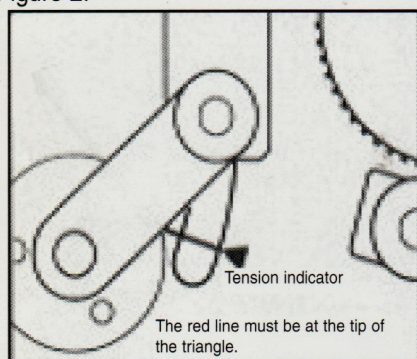

Figure 2
- Ensure that the film tension is set properly in the SDDS Reader Unit (DFP-R2000), refer to Figure 2.
- After confirming correct tension (refer to Figure 2), ensure that the SDDS reader lenses are clean. Also verify that the light fibers are clean and illuminating a visible red light.